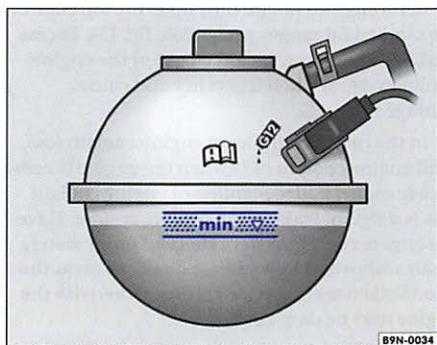

Fig. 154 Coolant expansion tank in the engine compartment.
- When the engine is cold, check the engine coolant level relative to the marking on the side of the expansion tank ⇒ fig. 154.
- Add only new engine coolant according to Volkswagen specifications (⇒ page 254) ⇒ ①.
- The engine coolant level must be inside the marks on the side of the reservoir ⇒ fig. 154. Do not fill above the top edge of the filling range! ⇒ ①
- Refill engine coolant only up to the top edge of the marked fill range ⇒ page 255, fig. 154. Excess engine coolant may be forced out of the engine cooling system when it gets hot and cause damage.